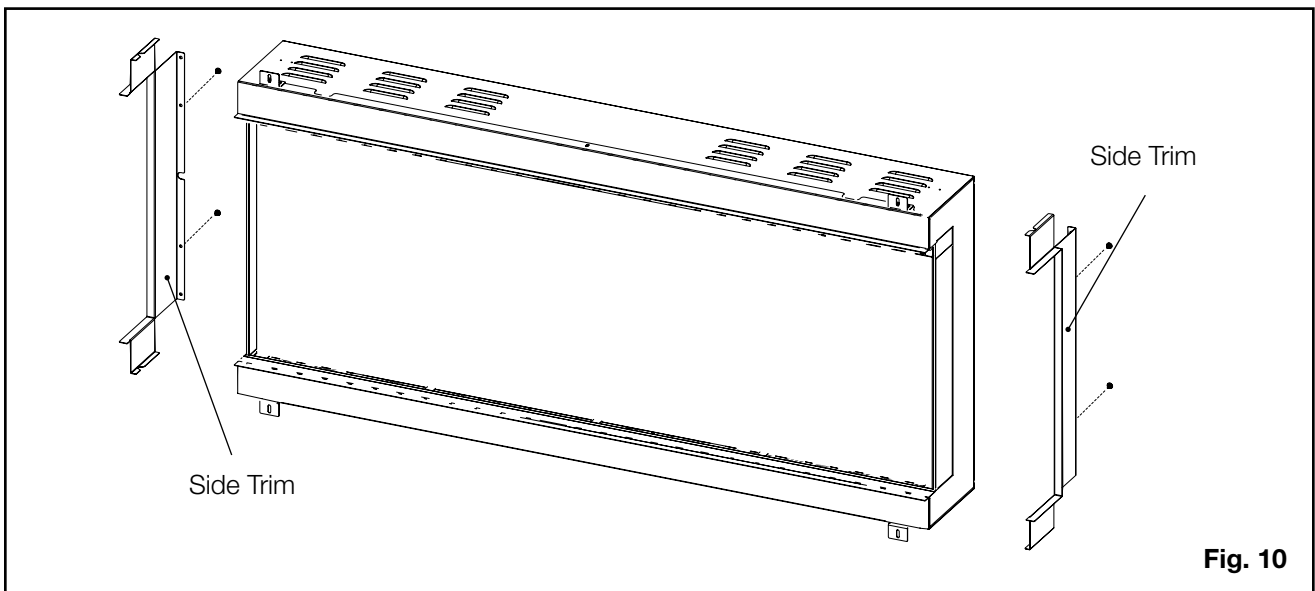

**Fig. 9**
2. For desired open side, remove the screws from the back of the fireplace which align with the trim then secure the trim using the metal screws provided **(Fig. 9)**.